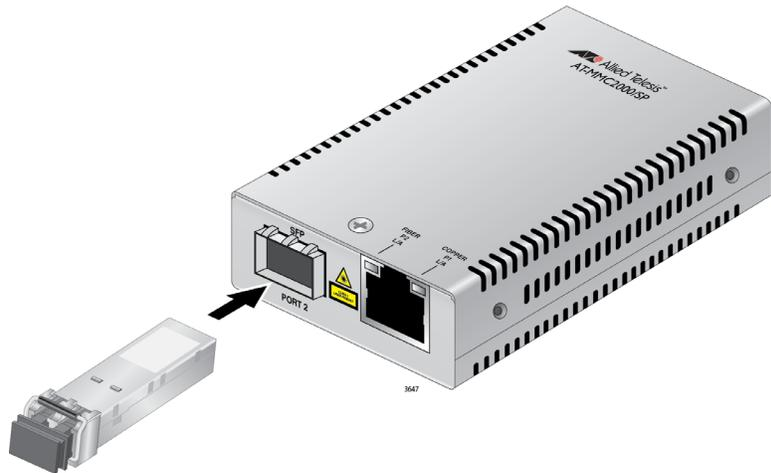

Figure 23. Inserting the SFP
- Slide the transceiver into the SFP slot until it clicks into place. See Figure 23.